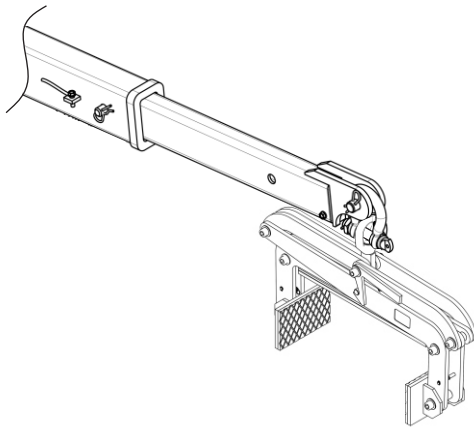

Figure 1.1
Step 1: Hook the Scissor Clamp to a forklift boom or to a crane hook (Figure 1.1).